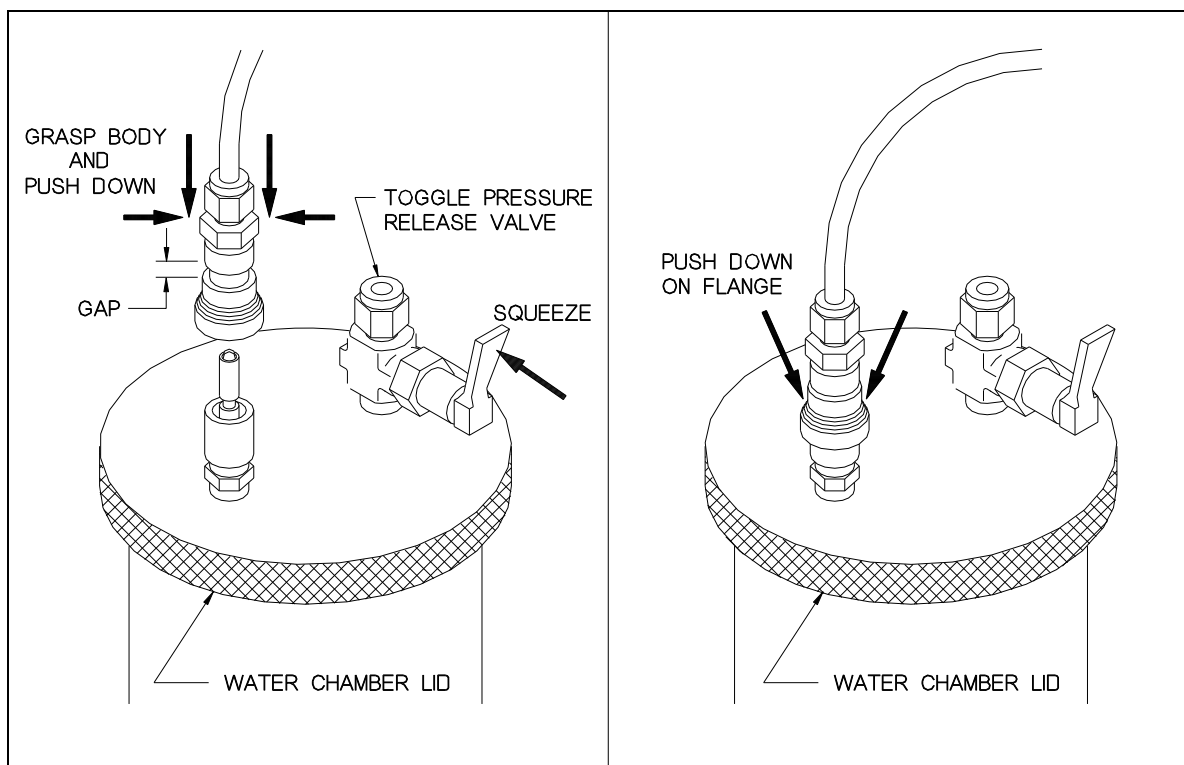

Figure 14. Air Quick-Connect on Top of Water Chamber
- Connect the top metal quick-connect located on the lid of the water chamber (Figure 14 below) pushing the two metal fittings together until they snap into the latched position.
The toggle pressure release valve as shown in Figure 14 below is in the normal CLOSED position. To OPEN the valve squeeze the black handle toward the body of the valve. The valve opens momentarily to release pressure from the system.
- Then release the excess pressure using the toggle pressure release valve on top of the water chamber. Squeeze the black handle of the toggle valve toward the body of the valve momentarily (Figure 14, Section 4.1). The water chamber gauge needle will show a drop in pressure.